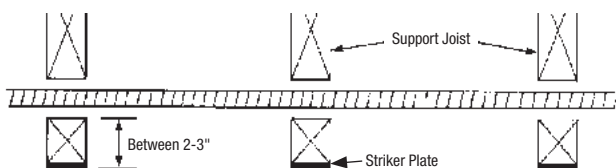
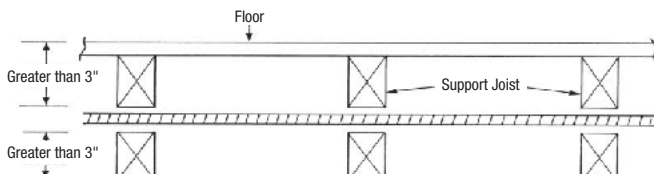

Figure 4.10 Shielding at Support Area When Penetration is 2-3 inches from Edge
Figure 4.12 Penetration Point Greater than 3" from Edge of Stud, Joist, Plate, etc.
- At support points and points of possible penetration 2-3 inches from any edge of stud, joist plate, or other member, shielding is required throughout the area of support. (Figure 4.10)
1. Support tubing such that it is more than 3 inches away from any outside edge of a stud, joist, plate, etc., or wall surface. (See Figure 4.12 compared to Figure 4.10)